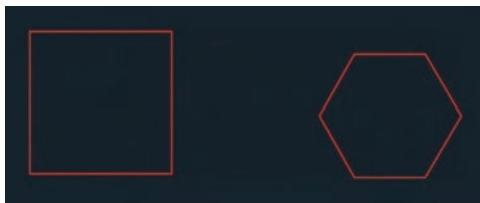

FIGURE 2.25 Drawing polygons
8. Type **1'** (or **30** for metric) as the radius of the circle and press Enter. A hexagon fitting inside a 1' (or 30 in metric) radius circle appears (see Figure 2.25).